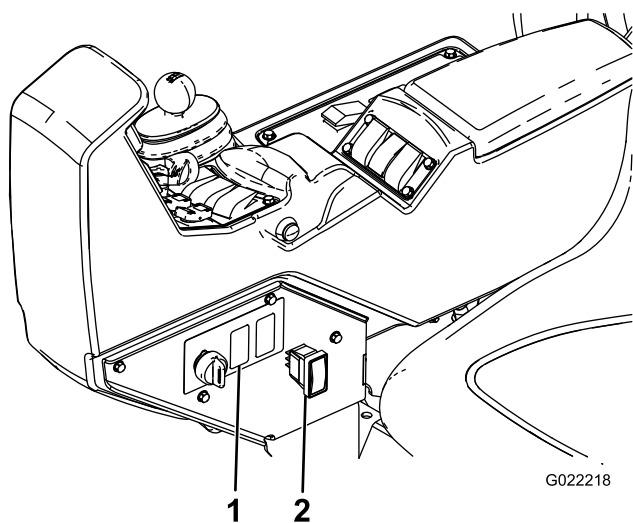

Figure 18
1. Locate the plug for the rinse tank switch on the dashboard (Figure 18).
2. Remove the plug from the dashboard (Figure 18).
5. Install the switch to the box connector through the dashboard (Figure 18).